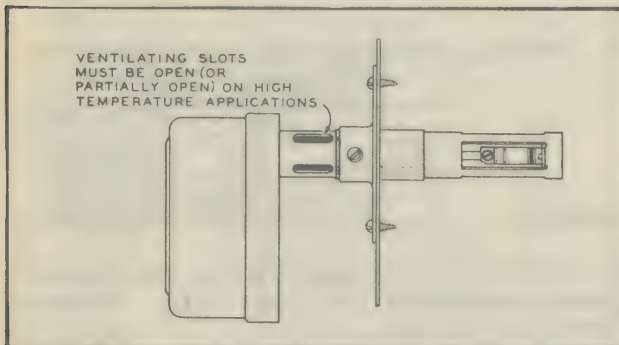

Fig. 3—Sleeve adjustment for high temperature applications, (ventilating slots partially or completely open).
**NOTE:-** In a few stack mounted applications where unusually high stack temperatures are encountered, it may be necessary to open or partially open the ventilating slots in the tube to safeguard the element. To open ventilating slots loosen bracket lock screw and slide sleeve away from case. Be sure that mounting bracket does not cover slots. (See Fig. 3). Then retighten bracket lock screw.